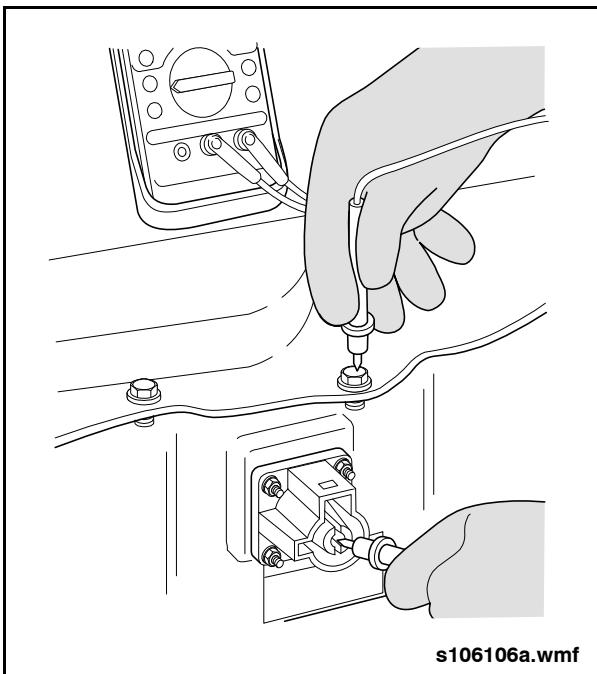

Fig. 56: ESS Voltage Check Between HV Terminals & Ground
- b. ESS positive terminal to chassis ground. See "Fig. 56: ESS Voltage Check Between HV Terminals & Ground" on page 4. Voltage reading must be less than 3VDC before work can continue.